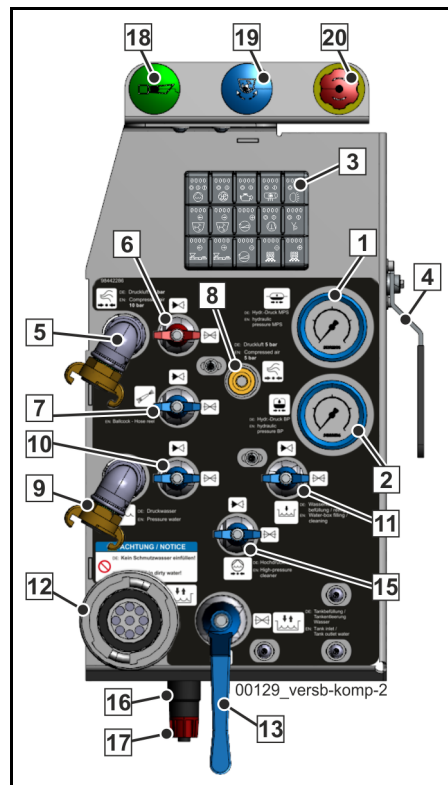

Fig. 427 Supply control
- Opening the ball valve (15) (**Fig. 427**) directs water from your machine’s water case to the high-pressure pump.